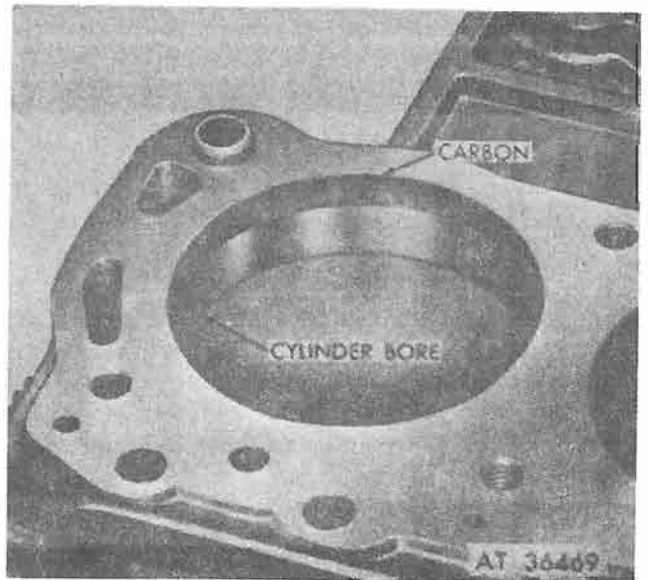

Figure 4-93. Carbon deposits and cylinder ridges.
b. **Carbon Deposits and Ridges.** Remove any deposits and ridges from upper end of cylinder bores (fig. 4-93).